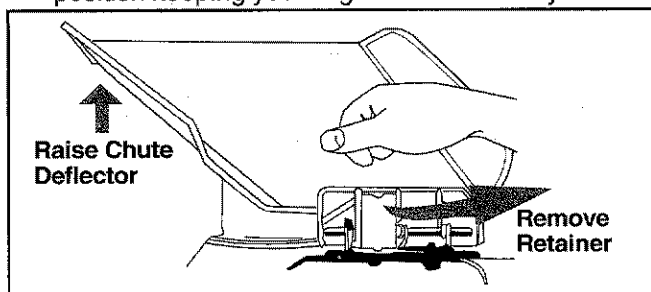

Figure 5
- Push the chute deflector up and towards the engine. Holding the deflector in this position, remove the retainer. See Figure 5.